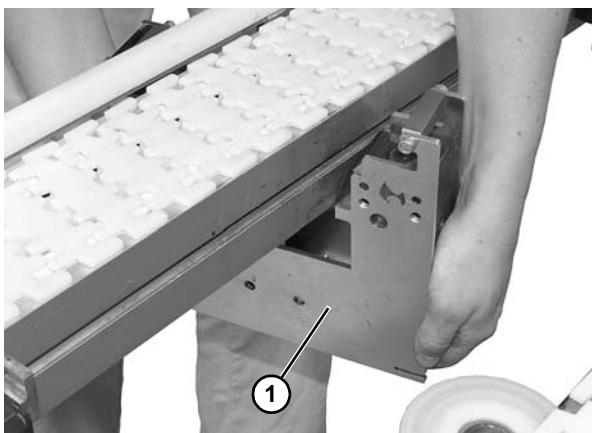

Figure 64
10. Lower lift and locate station (**Figure 64, item 1**), on an angle as shown, and remove from under the conveyor.